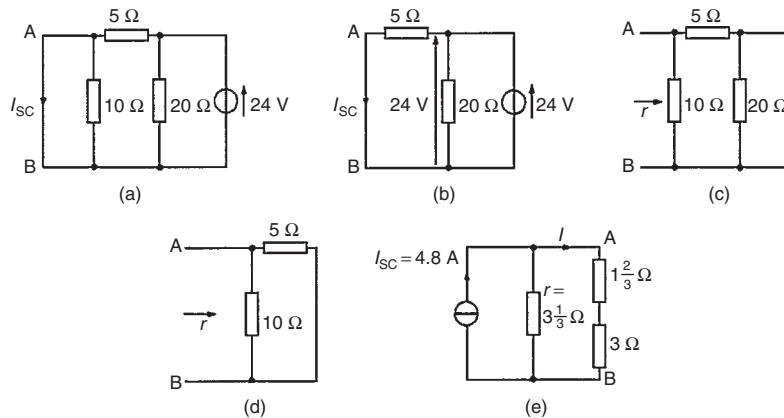

Figure 13.61
- The branch containing the 3Ω resistance is short-circuited as shown in Fig. 13.61(a)
(ii) From the equivalent circuit shown in Fig. 13.61(b),
(iii) If the 24V source of e.m.f. is removed the resistance 'looking-in' at a break made between A and B is obtained from Fig. 13.61(c) and its equivalent circuit shown in Fig. 13.61(d) and is given by:
(iv) From the Norton equivalent network shown in Fig. 13.61(e) the current in the 3Ω resistance is given by: